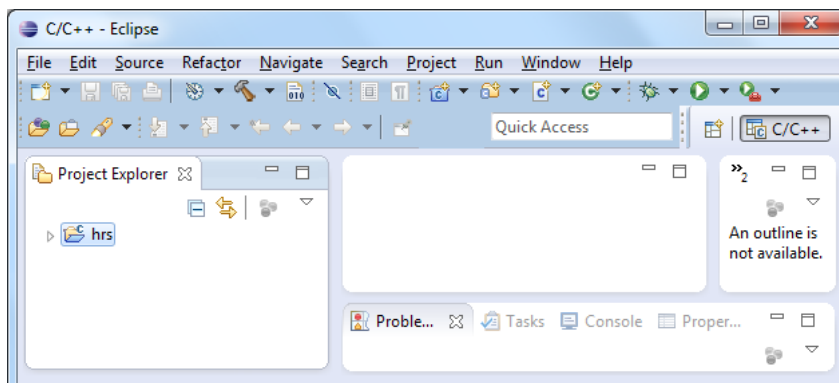

Figure 16: Creating project in Eclipse
5. Click **Finish**. The project should now appear on the Project Explorer tab on the left (Figure 16).